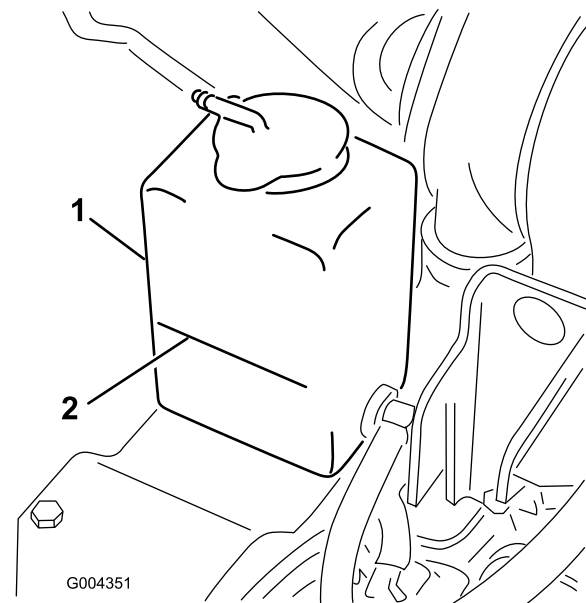

Figure 20
1. Check the level of coolant in the expansion tank (Figure 20).